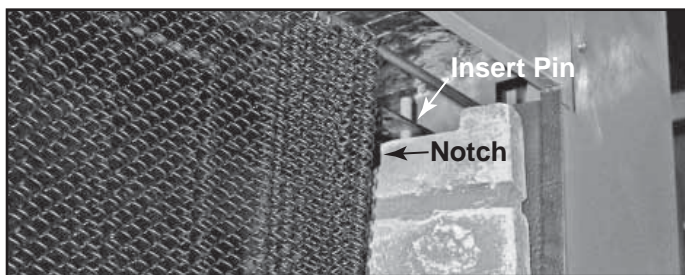

Figure 15.18 Insert Pin into Top Frame
- Install rod in hole in glass frame top. See Figure 15.18.